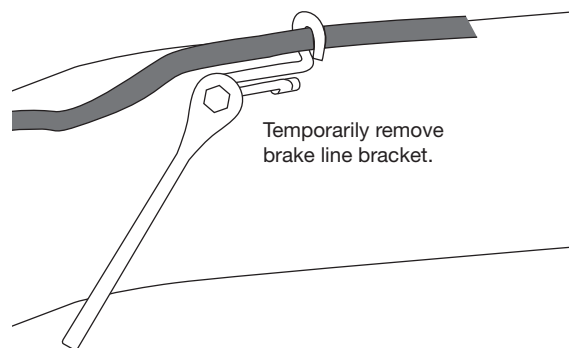

fig. 5
2. On the driver's (left) side only, unbolt the emergency brake cable. Remove the nut and cable bracket and pull the cable loose from the frame (Fig. 5). Hold onto fasteners so that the cable bracket can be reattached later.